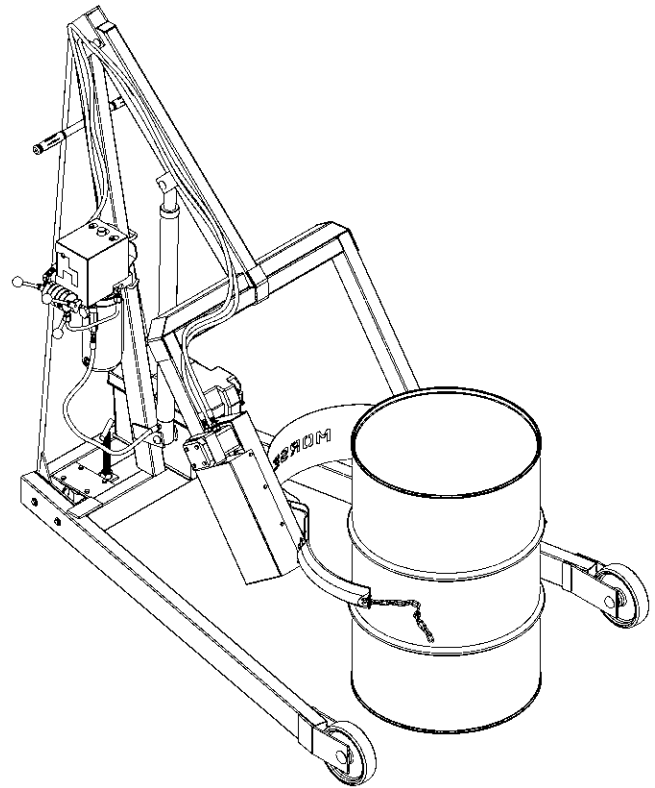

Figure 3.1
The screw-down floor lock is located on the base of the tower (figure 3.1). Turning the floor lock clockwise until it locks in the down position activates the floor lock. When the floor lock is activated it prevents unwanted free wheeling of the unit. Floor conditions determine the effectiveness of the floor lock. The operator should verify its holding action before depending on it to hold.
- 2.) Using the "LIFT" control as described in "**Machine Description - Controls**" (page 3), position the drum holder assembly with the back band at the middle of the drum. (Figure 3.1). With the ratchet plate swung open and the cinch chain hanging from the chain hook, push the unit until the back band rests firmly against the drum. Some adjustment to the tilt angle of the saddle may be necessary to ensure band fits flush on the drum.